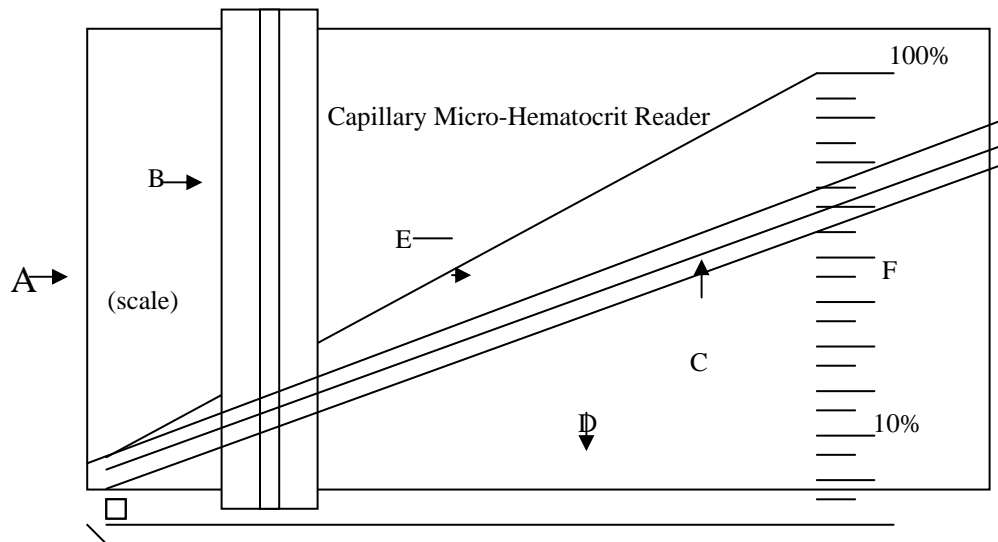

Figure 1 Capillary Micro-Hematocrit Reader
The Unico model C-MH30 comes with an adjustable reader (fig. 1) designed to make the hematocrit results reading fast, easy, and accurate.
1. Set the hematocrit reader (Fig. 1) on a flat level surface with the words “Capillary Micro-Hematocrit Reader” facing you.
2. Make sure the Indicator lever (C) is at the bottom of the reader even with the zero line and that the capillary Holder (B) is at the extreme left of the reader.
3. Place the capillary tube to be read in the groove of the capillary holder (B) with the clay-sealed end toward the bottom of the groove. Using your index finger, slide the capillary up until the juncture (interface) of the packed red cells and the clay is directly over the Zero Line D).
6. Look at the scale on the right of the reader (F). Where the black line of the indicator crosses over one of the scale numbers that is the hematocrit value for that sample.